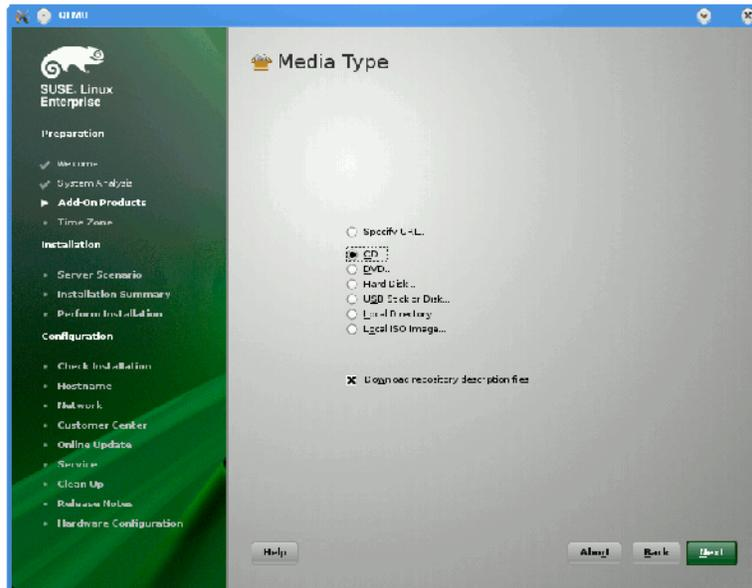

Figure 1-11 SLES11 Media Type Screen
3. From the **Media Type** screen, shown in Figure 1-11 on page 19, click the button to the left of **CD**.